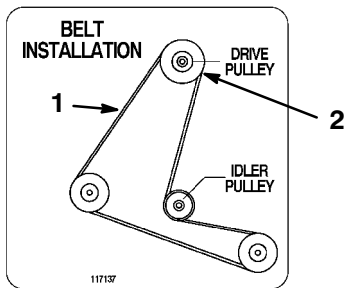

Figure 7
9. Pull on idler pulley to relax belt tension and install mower drive belt to the engine pulley (Fig. 7). Place belt in upper pulley groove if engine has a double groove pulley.